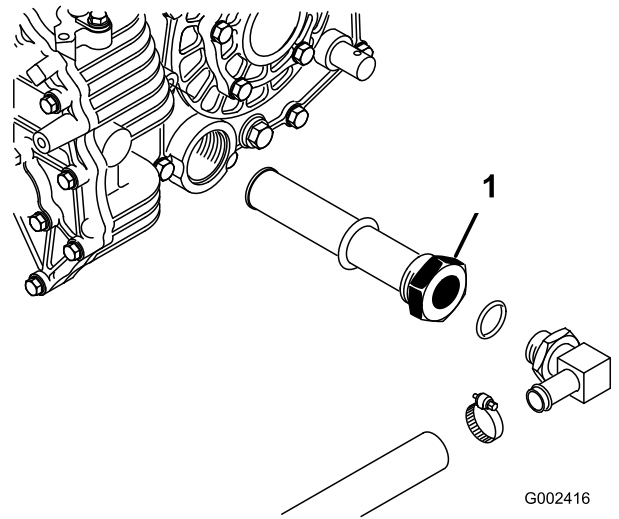

Figure 74
3. Note the orientation of the hydraulic hose and 90° fitting connected to the strainer on the side of the reservoir (Figure 74).